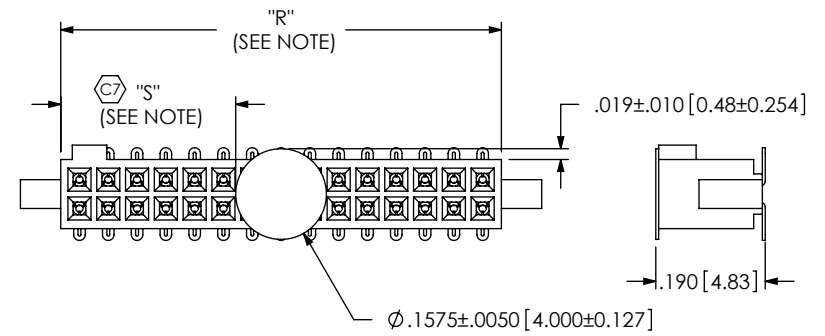

FIG 3
-K: POLYIMIDE FILM PAD (.005[0.13] THICKNESS WITH SILICONE ADHESIVE) (SEE FIG. 3, SHT. 2) (USE K-500-300)